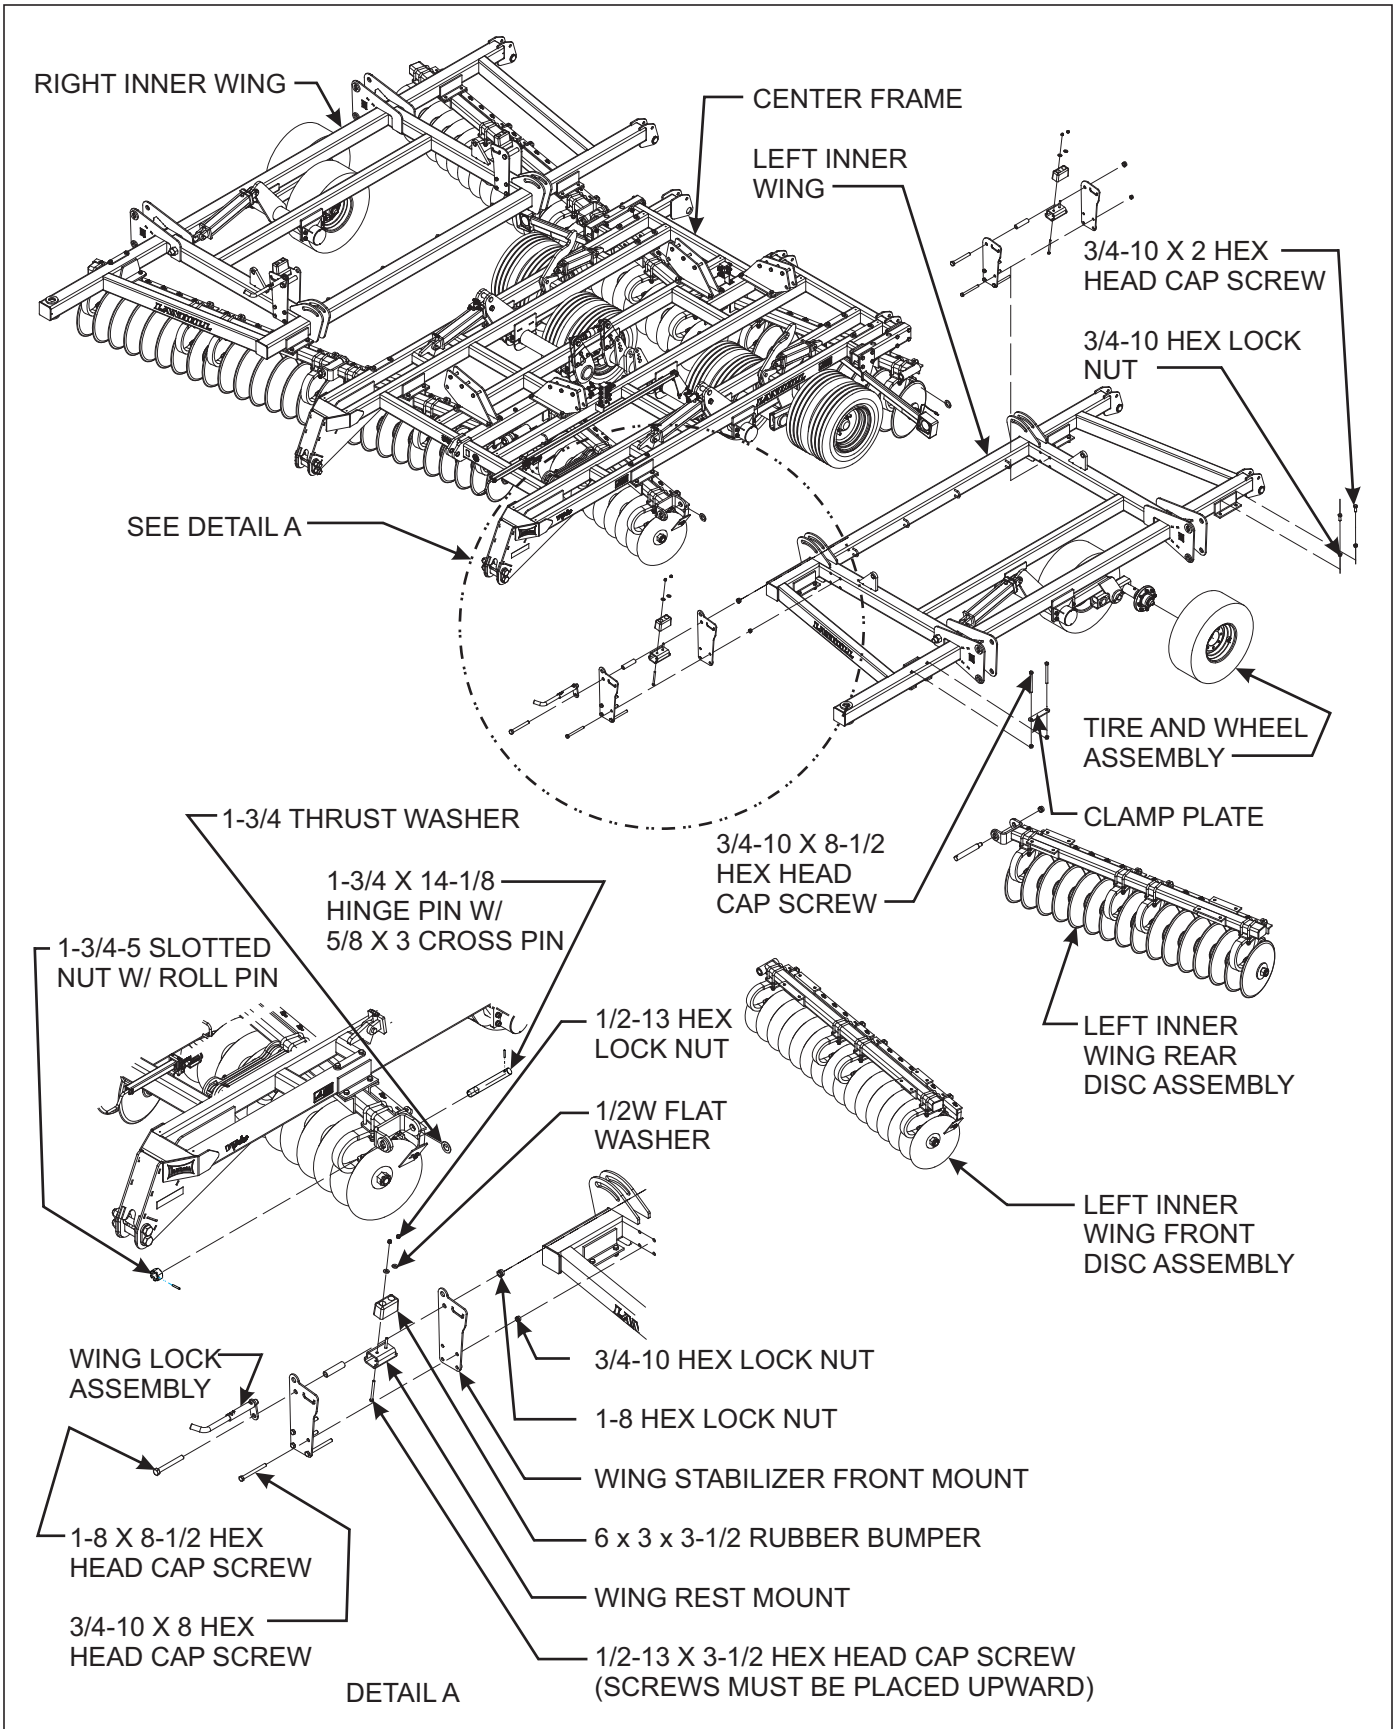

Figure 3-3: Inner Wing Frame Installation
1. Place the inner wing frames on top of the wing gang assemblies and attach using 3/4-10 x 2 and 3/4-10 x 8-1/2 hex head cap screws and hex lock nuts (See Figure 3-3.)